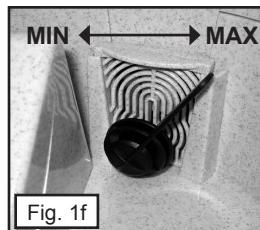

Fig. 1f
- 10) Set your desired flow rate with the flow control knob, located to the right of the splash ramp. In the 10 o'clock position for a smaller stream or in the 2 o'clock position for a strong stream. (Fig. 1f)